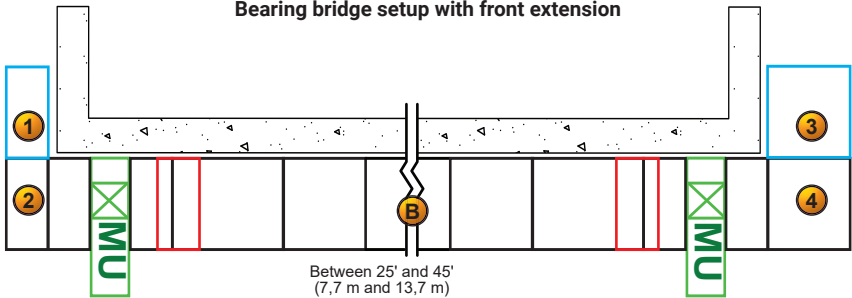

fig. 6.6
- ① 500 lb (227 kg)
- ② 1500 lb (680 kg)
- ③ 500 lb (227 kg)
- ④ 1500 lb (680 kg)
- Ⓑ For the load capacities of the bearing bridges in the setups illustrated in fig. 6.6, refer to the bearing bridge capacities illustrated in fig. 6.4, p. 76.